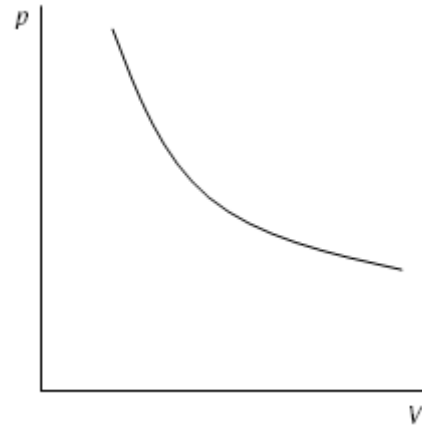

Fig. 1 Graph of pressure against volume
- Plot the values in a graph of p against V and p against $1/V$ (refer to fig. 1 and 2).